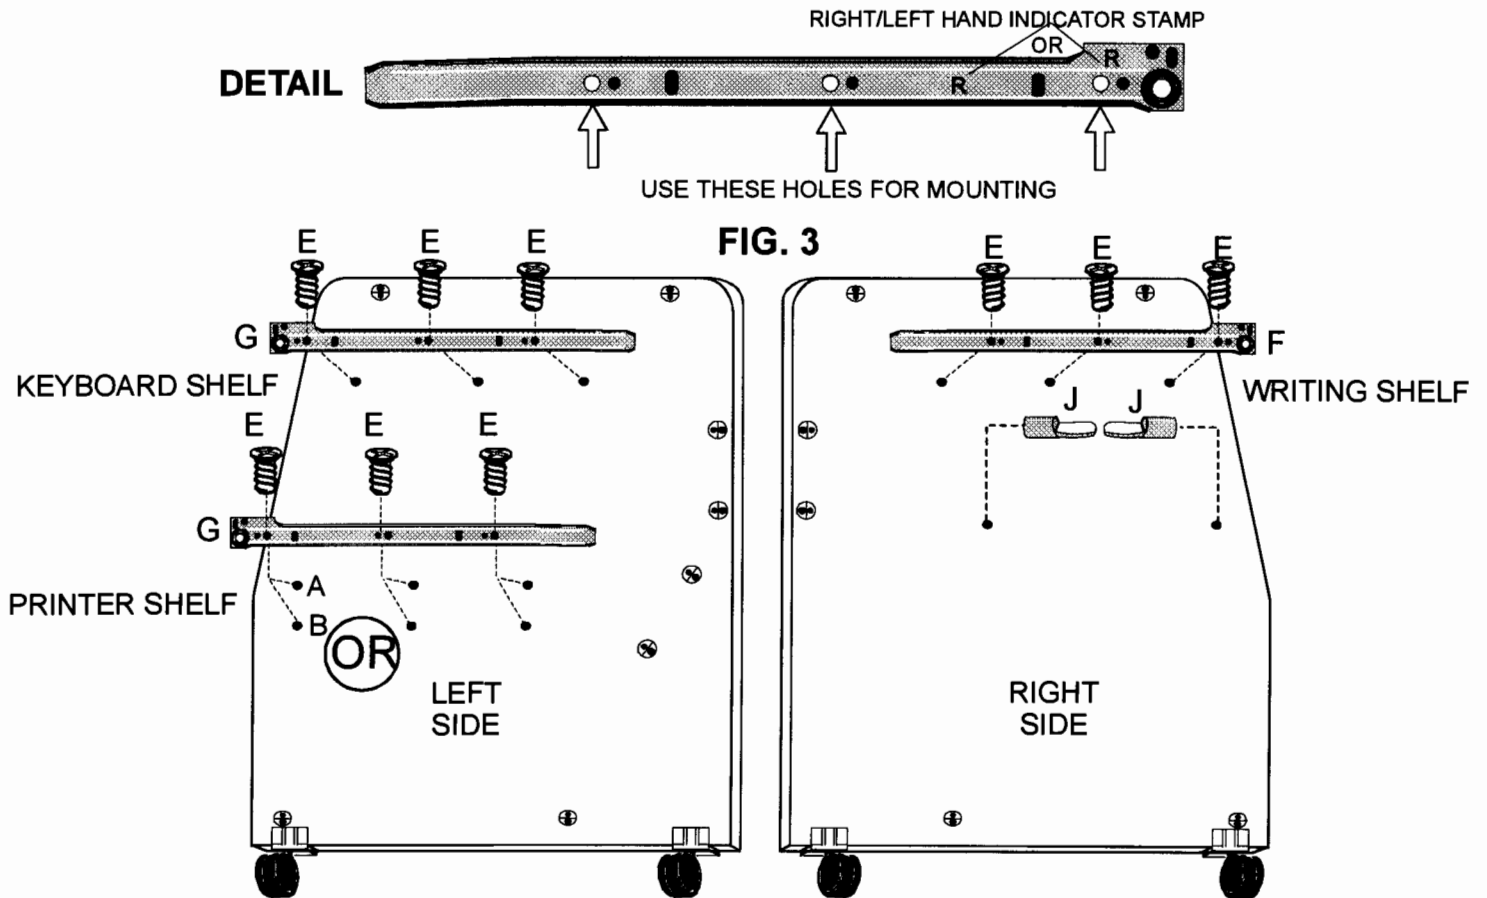

FIG. 3
With RIGHT SIDE laying on a flat, non-scratch surface, align and attach (1) 16" RIGHT CABINET RAIL (F) as shown in FIG. 3 using (3) 5mm EUROSCREWS (E). Align LARGER MOUNTING HOLES with holes on panel (SEE DETAIL). Insert (2) SHELF PINS (J) into pre-drilled holes near center RIGHT SIDE.
Lay CENTER on a flat, non-scratch surface. Install (2) SHOULDER SCREWS (A) into each edge; top, bottom and rear, of CENTER. FIG. 4 Lay CENTER with LEFT VIEW facing up. Align and attach (2) RIGHT CABINET RAILS (F) using (3) 5mm EUROSCREWS (E) each. Position lower RIGHT CABINET RAIL at either A or B depending upon how it has been positioned on LEFT SIDE in FIG. 3 and STEP 3